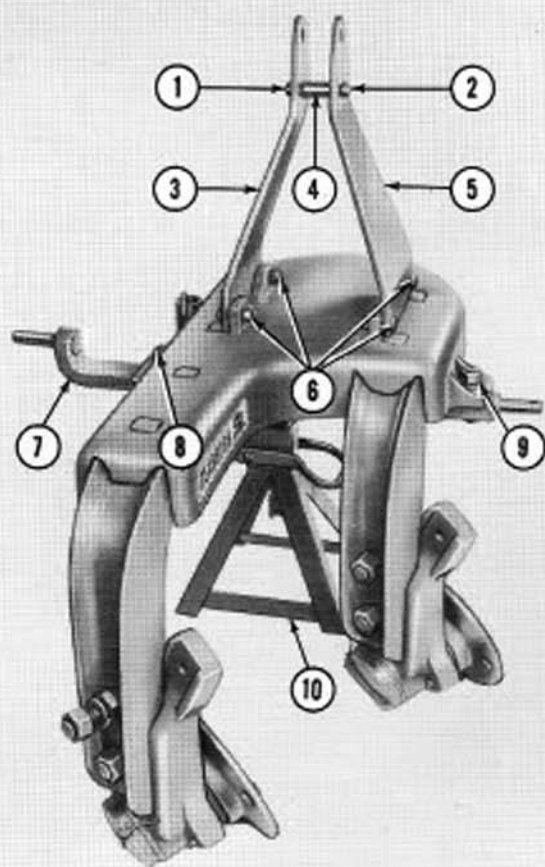

Figure 2
2. Block the plow frame up with a jack or other suitable support as shown in Figure 2. The support should be approximately 18 inches in height.
- a. Position the "A" frame members (3) and (5), Figure 2 on the main plow frame with the angled side of the members toward the rear of the plow. Attach these members to the plow frame loosely with the four bolts, lockwashers and nuts shown at (6).
- b. Secure the top of the "A" frame with the bolt (2), Figure 2, spacer (4), and the lockwasher and nut (1) provided.
4. Attach the cross shaft (7), Figure 2, to the plow frame with the bolts, lockwashers and nuts (8) and (9) as shown. Under normal conditions, install the bolts through the right hand set of holes in the cross shaft. (See adjustment.)
- c. Remove the jack (10), Figure 2.